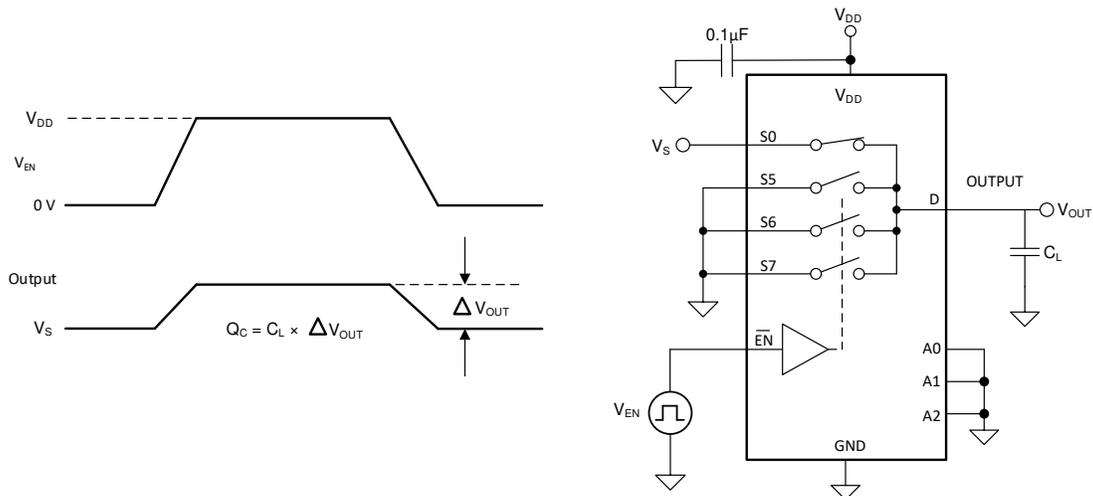

Figure 7-7. Charge-Injection Measurement Setup
The TMUX1308A-Q1 and TMUX1309A-Q1 device have a transmission-gate topology. Any mismatch in capacitance between the NMOS and PMOS transistors results in a charge injected into the drain or source during the falling or rising edge of the gate signal. The amount of charge injected into the source or drain of the device is known as charge injection, and is denoted by the symbol Q_C . Figure 7-7 shows the setup used to measure charge injection from source (Sx) to drain (D).